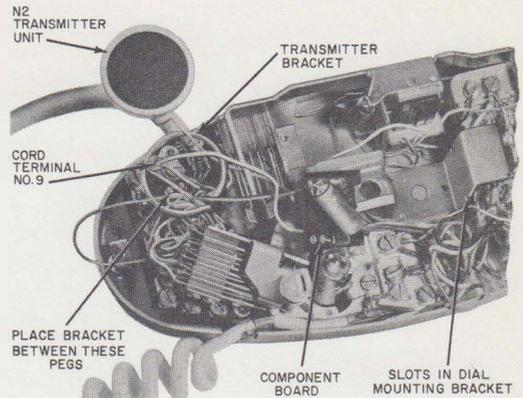
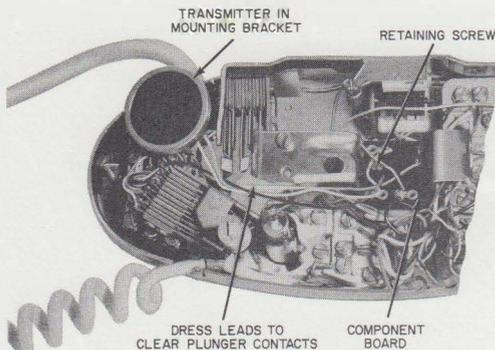

Fig. 5—664C Transmitter, Component Positioning
Fig. 4—664C Transmitter, Installed
- (1) Remove set housing. Loosen dial mounting screws and move dial to one side to clear area between dialing brackets. Do not disconnect dial leads.
- (2) Remove transmitter and component board (Fig. 4).
- (3) Install the component board of the replacement transmitter between the dial mounting bracket uprights and secure using the screw furnished. The component board is notched to fit into slots on the dial mounting bracket.
- (4) Mount the transmitter bracket on the mounting board terminal board using one screw from terminal 9 (Fig. 5). The bracket should be placed between pegs on the terminal board as shown in Fig. 5.